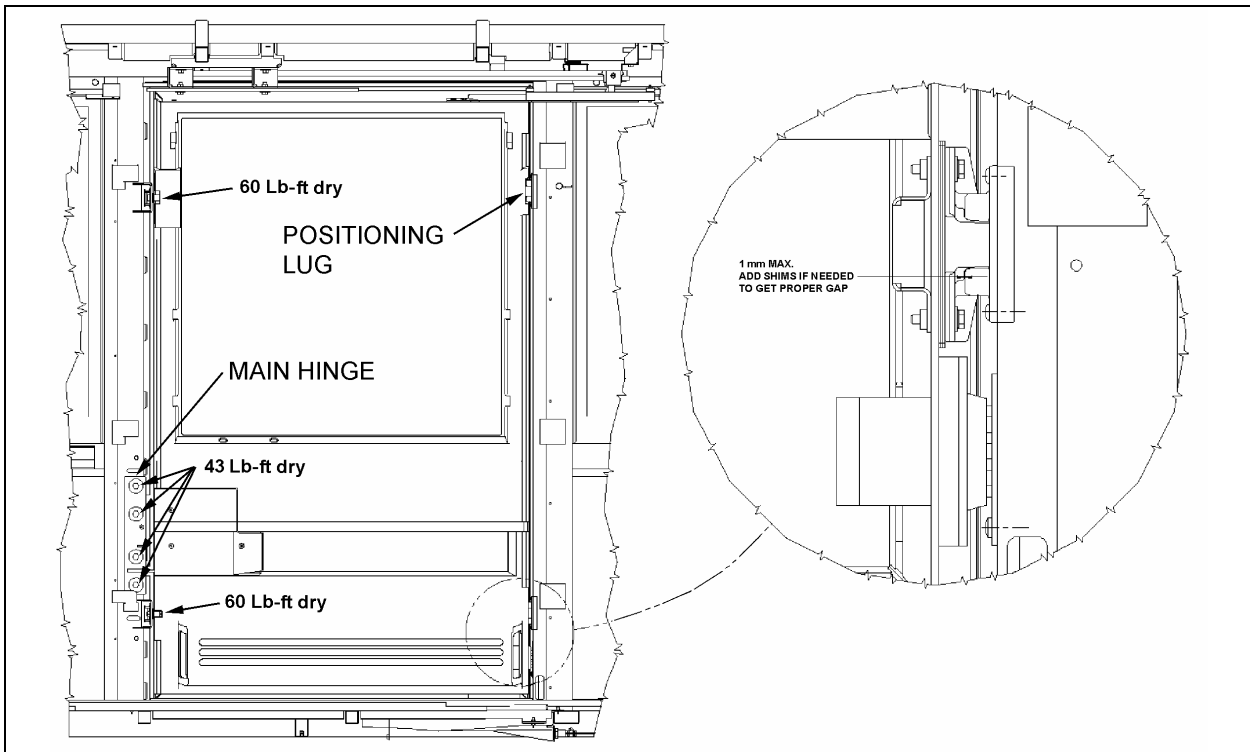

FIGURE 46: WCL SLIDING DOOR INSTALLATION
10. Install and adjust strikers. Torque to 60 Lb-ft (Refer to figure 46).